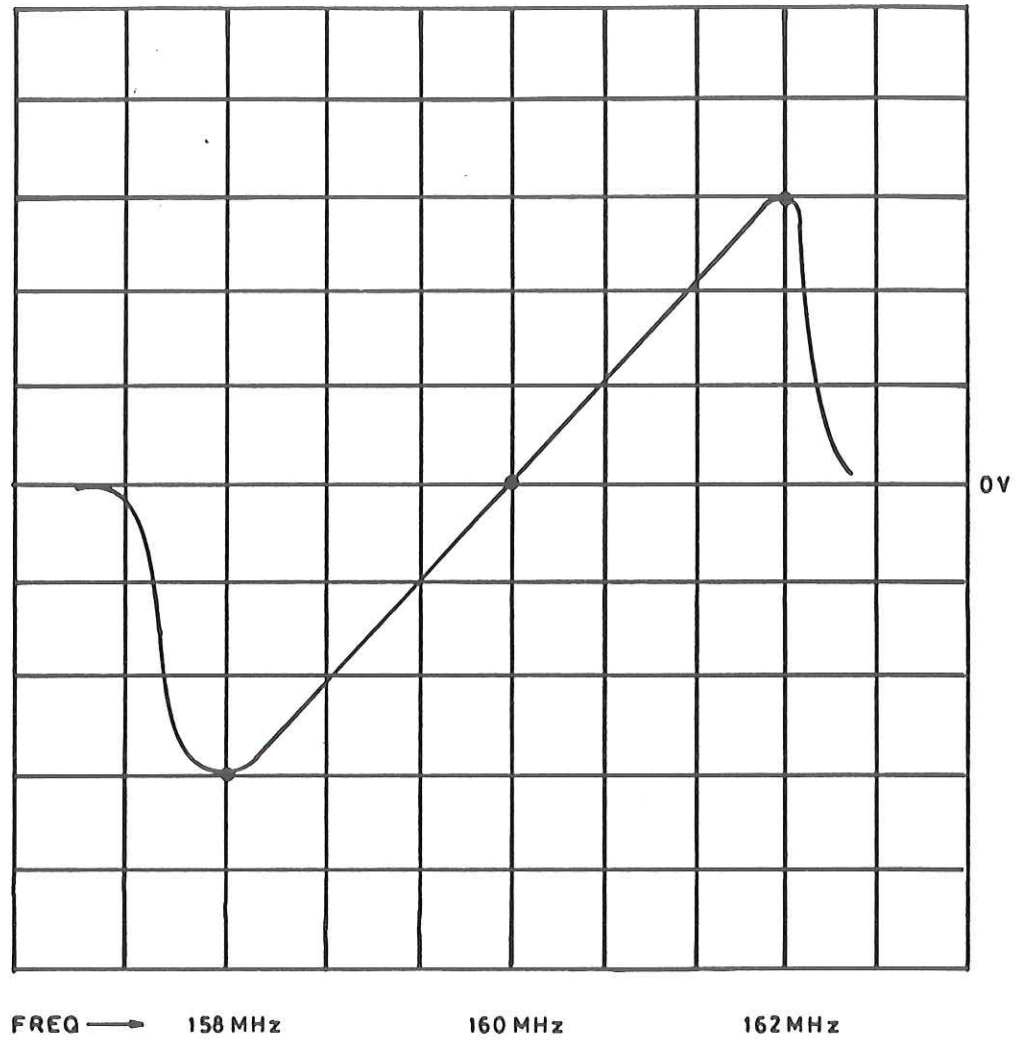

Fig 9 'S' curve 4MHz bandwidth
- c. Repeat these adjustments until the display resembles Figure 9.